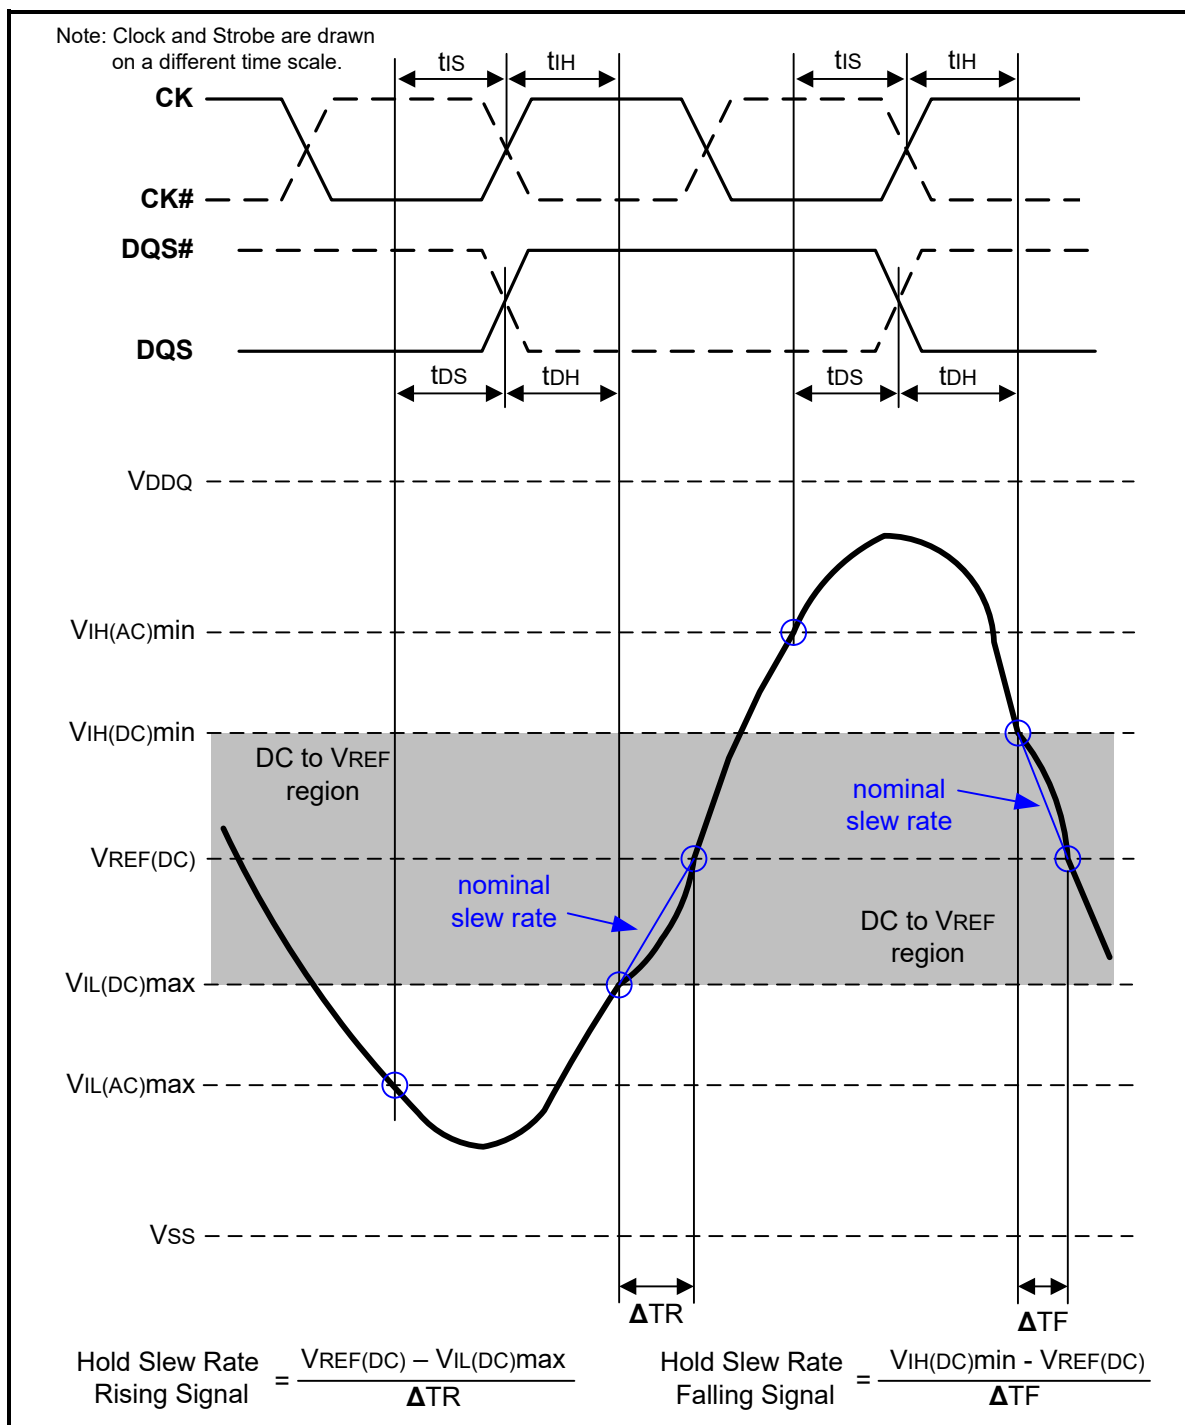

Figure 108 – Illustration of nominal slew rate for hold time t_{DH} (for DQ with respect to strobe) and t_{IH} (for ADD/CMD with respect to clock)
Hold (t_{IH}) nominal slew rate for a rising signal is defined as the slew rate between the last crossing of $V_{IL(DC)max}$ and the first crossing of $V_{REF(DC)}$. Hold (t_{IH}) nominal slew rate for a falling signal is defined as the slew rate between the last crossing of $V_{IH(DC)min}$ and the first crossing of $V_{REF(DC)}$. If the actual signal is always later than the nominal slew rate line between shaded 'DC to VREF(DC) region', use nominal slew rate for derating value (see Figure 108). If the actual signal is earlier than the nominal slew rate line anywhere between shaded 'DC to VREF(DC) region', the slew rate of a tangent line to the actual signal from the DC level to $V_{REF(DC)}$ level is used for derating value (see Figure 110).
Hold (tDH) nominal slew rate for a rising signal is defined as the slew rate between the last crossing of VIL(DC)max and the first crossing of VREF(DC). Hold (tDH) nominal slew rate for a falling signal is defined as the slew rate between the last crossing of VIH(DC)min and the first crossing of VREF(DC) (see Figure 108). If the actual signal is always later than the nominal slew rate line between shaded 'DC level to VREF(DC) region', use nominal slew rate for derating value. If the actual signal is earlier than the nominal slew rate line anywhere between shaded 'DC to VREF(DC) region', the slew rate of a tangent line to the actual signal from the DC level to VREF(DC) level is used for derating value (see Figure 110).